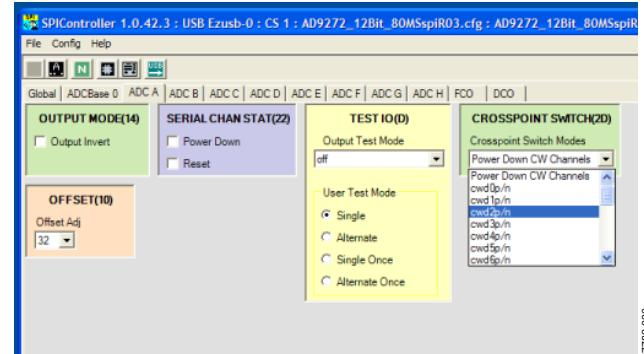

Figure 19. SPI Controller, CROSSPOINT SWITCH(2D) Box
7. In the **ADC x** tab of the SPI Controller, where x is the channel to which an analog input is applied, find the **CROSSPOINT SWITCH(2D)** box. From the **Crosspoint Switch Modes** drop-down box, select the **cwd2p/n** option (see Figure 19).